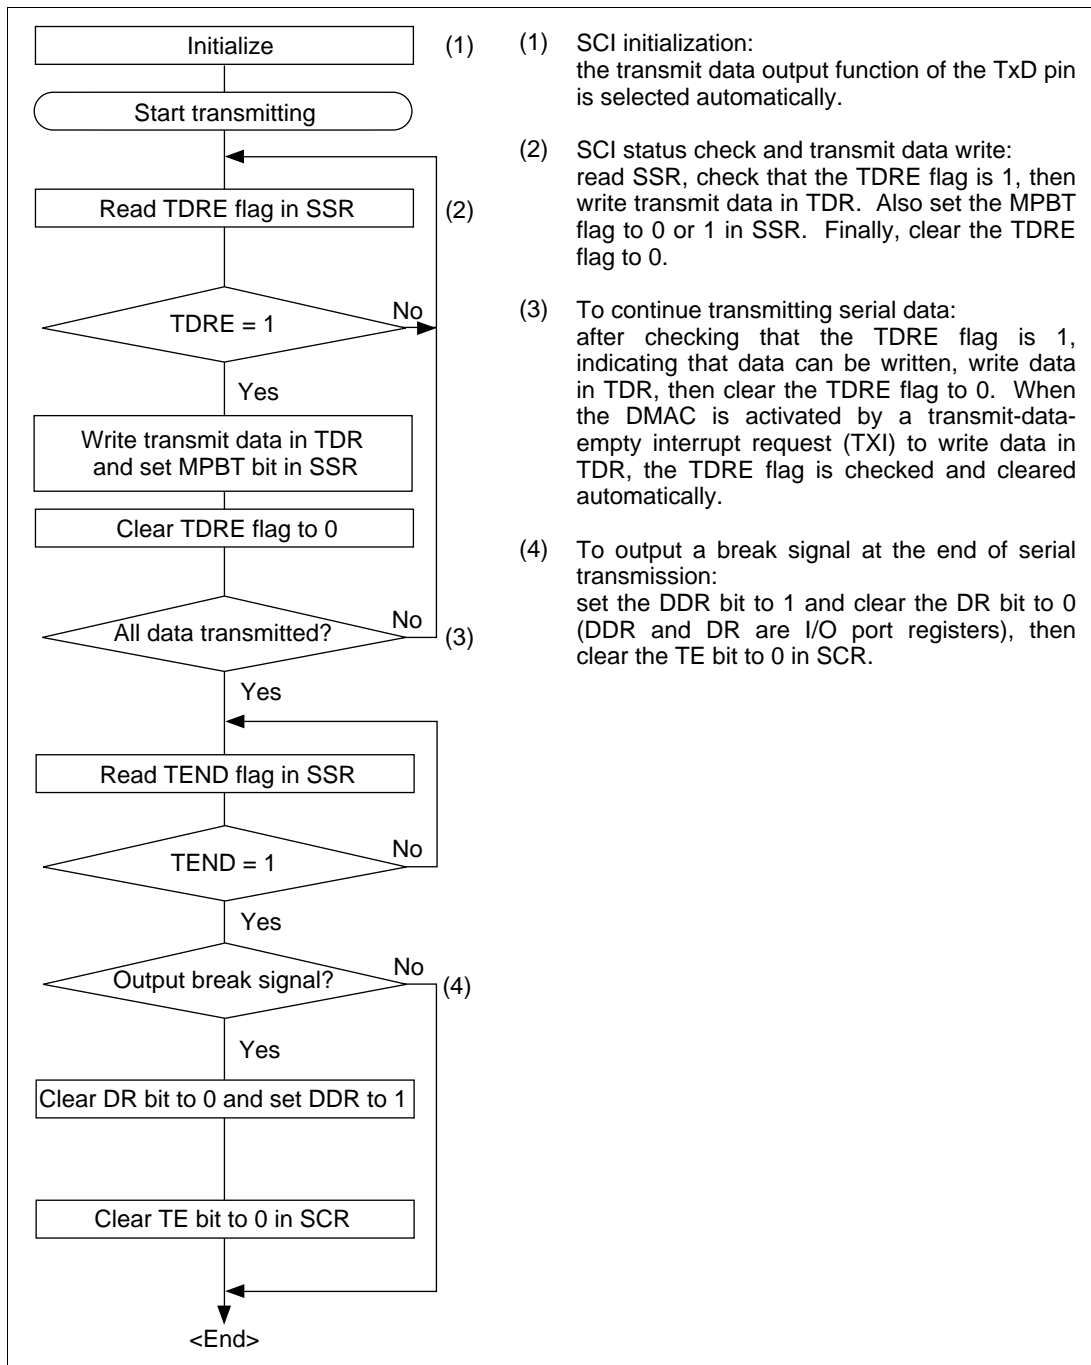

Figure 13.10 Sample Flowchart for Transmitting Multiprocessor Serial Data
- Transmitting Multiprocessor Serial Data: Figure 13.10 shows a sample flowchart for transmitting multiprocessor serial data and indicates the procedure to follow.